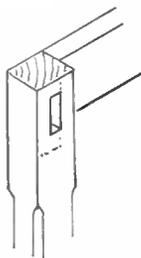

Fig. 1
The legs are cut from 2 in. square timber, and the horizontal rails are 1 in. thick. The rails are tenoned into the legs as in Fig. 1. Note that the face sides of these rails should come level with those of the legs, so cut the tenons accordingly as at (A), where the wood is reduced to half thickness, cutting from the face side.